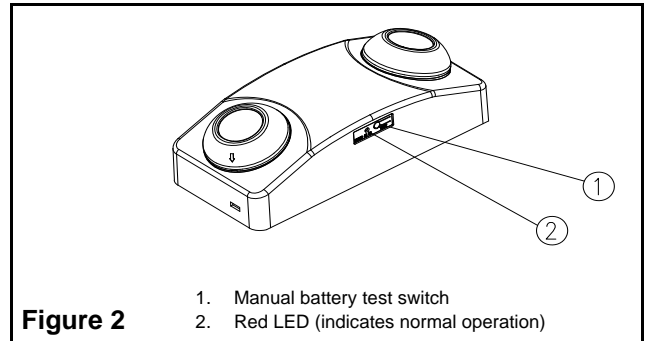

Figure 2
8. Restore power and press the test button (see figure 2). Lamp heads will turn on.
7. Restore power and press the test button (see figure 2). Lamp heads will turn on.